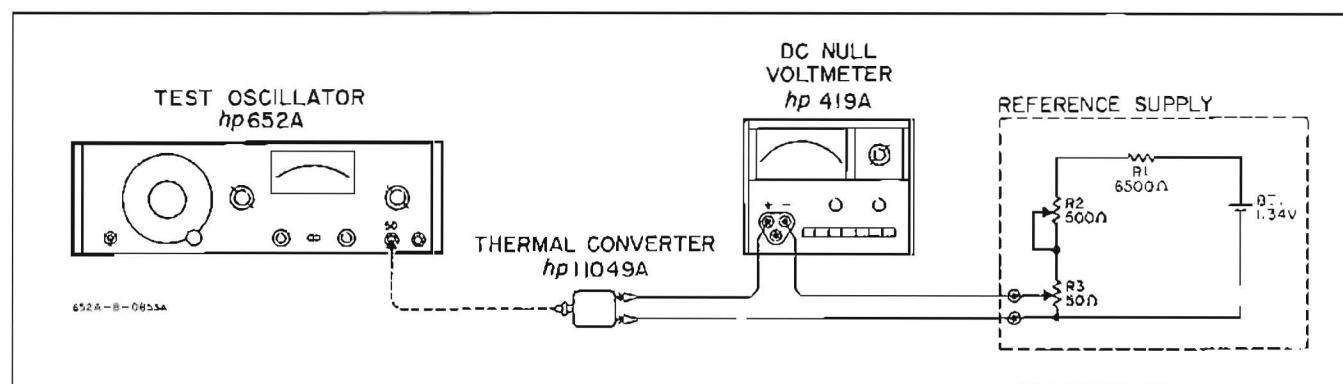

Figure 5-3. Flatness Tests.
a. Connect equipment as shown in Figure 5-3. (Use a thermal converter with a known change in output for a given change at the input. If this information is not readily available, then Table 5-3 gives this information for a typical thermal converter connected as in Figure 5-3). Set both 652A output and reference supply to minimum before connecting. Thermal converter must be connected directly to $50\ \Omega$ output of 652A.